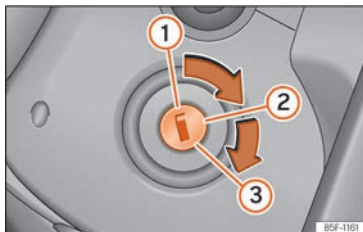

Fig. 209 Ignition key positions.
Key positions » **Fig. 209**
- Turn the key to position »» **Fig. 209 ②**. Preheating occurs in diesel vehicles .
- Keep turning the key to position »» **Fig. 209 ③** without stepping on the accelerator.
- Once the engine starts, release the key. When it is released, the key returns to position **②**.
- *Vehicles with ignition locks:* Turn the key to position »» » Fig. 209 ①.